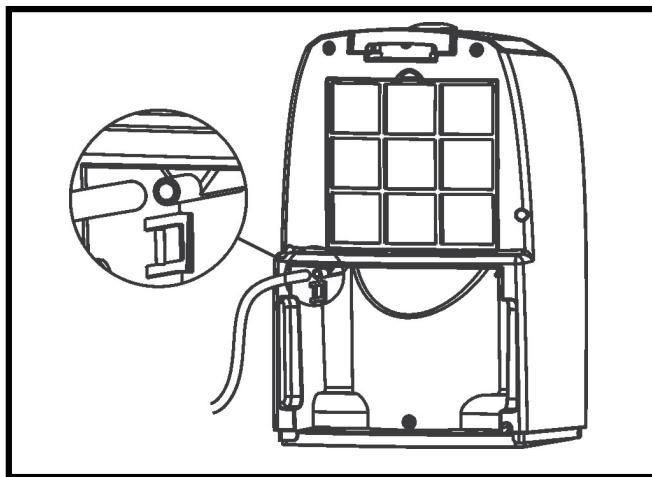

Fig. 5
2. Connect the drain hole with water tube of inner diameter: 11 mm. The water tube is not supplied with the unit (FIG. 5).